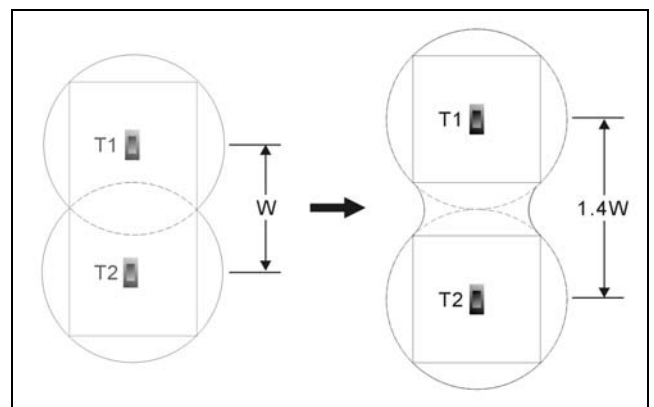

Figure 3.6 The effect of overlapping footprints
For up to 4 carriers, experience shows that if the receiver can pick up the signal from adjacent radiators (presumed radiators at a distance  $W$ , their rectangular footprints just touching each other seamlessly) the distance  $W$  between these radiators can be increased by a factor 1.4 approximately (see figure 3.6).
4. If the receiver can pick up the signals from neighbored radiators in some areas (according to fig. 3.6) determine the overlapping effect and draw the picture of the footprint enlargement in the layout of the room.